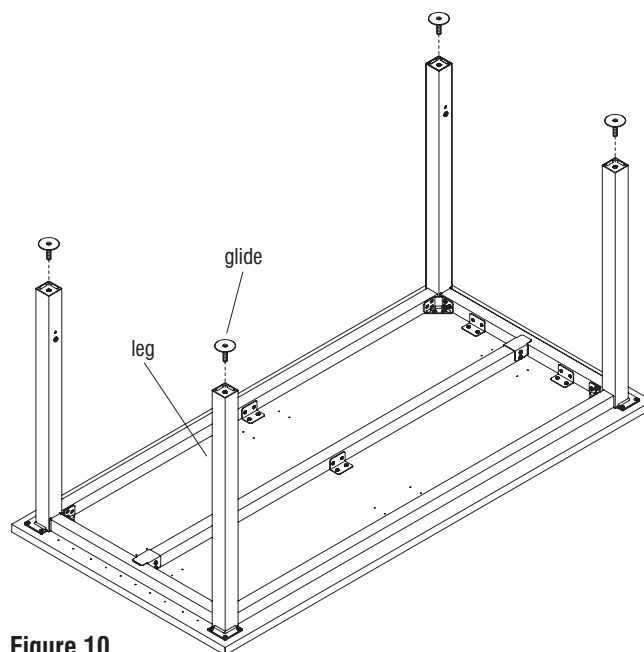

Figure 10
1. Thread the stem of each glide into the threaded hole at the bottom of each leg and hand-tighten them. (Figure 10 & Detail O).